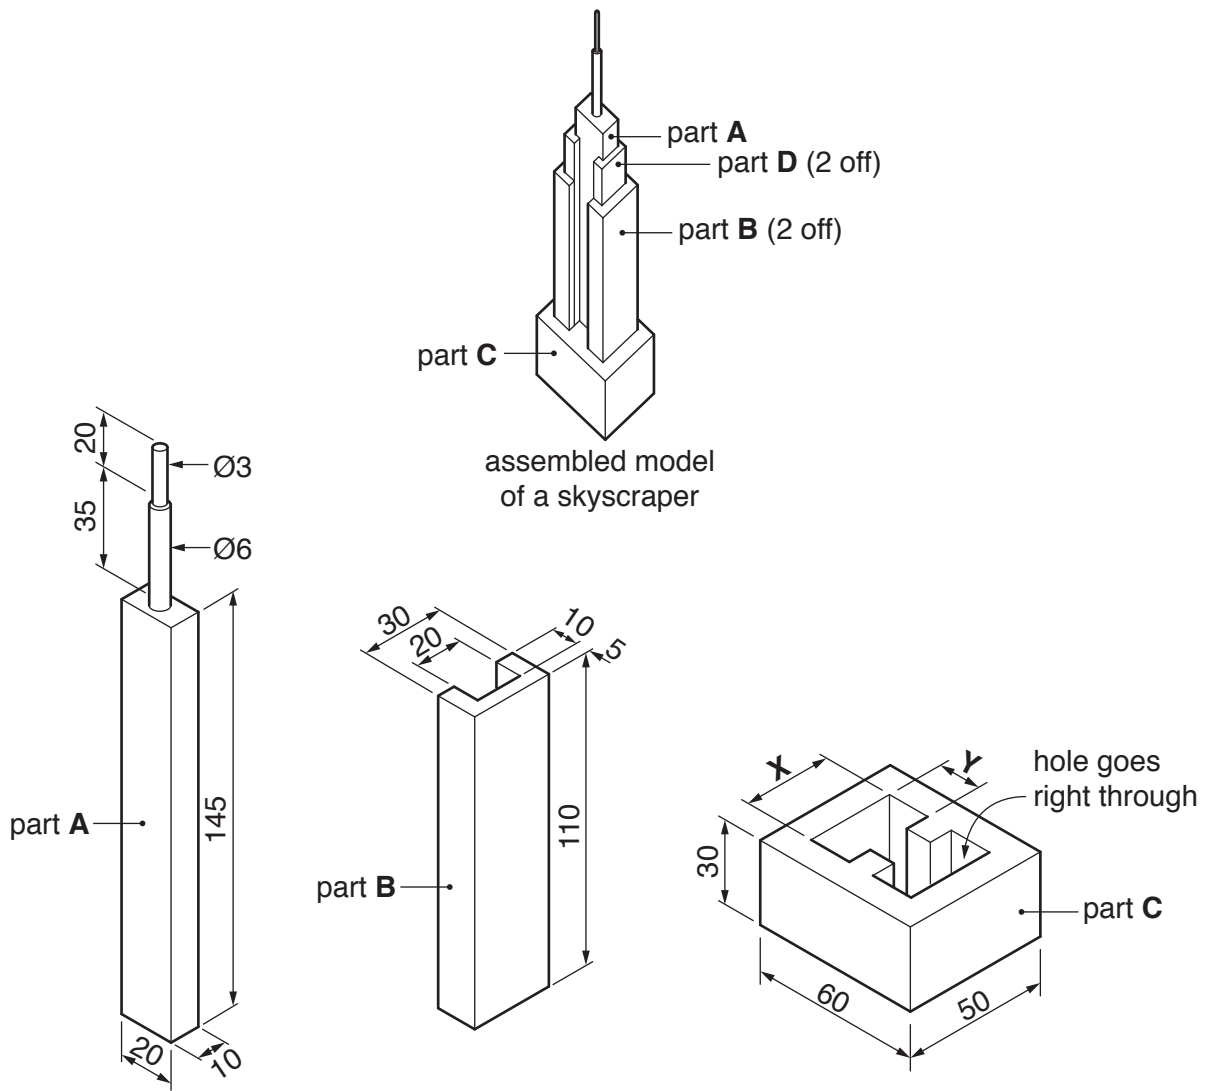

Fig. 3
- 3 Fig. 3 gives details about a child's constructional toy. The six wooden pieces fit together to make a model of a skyscraper.